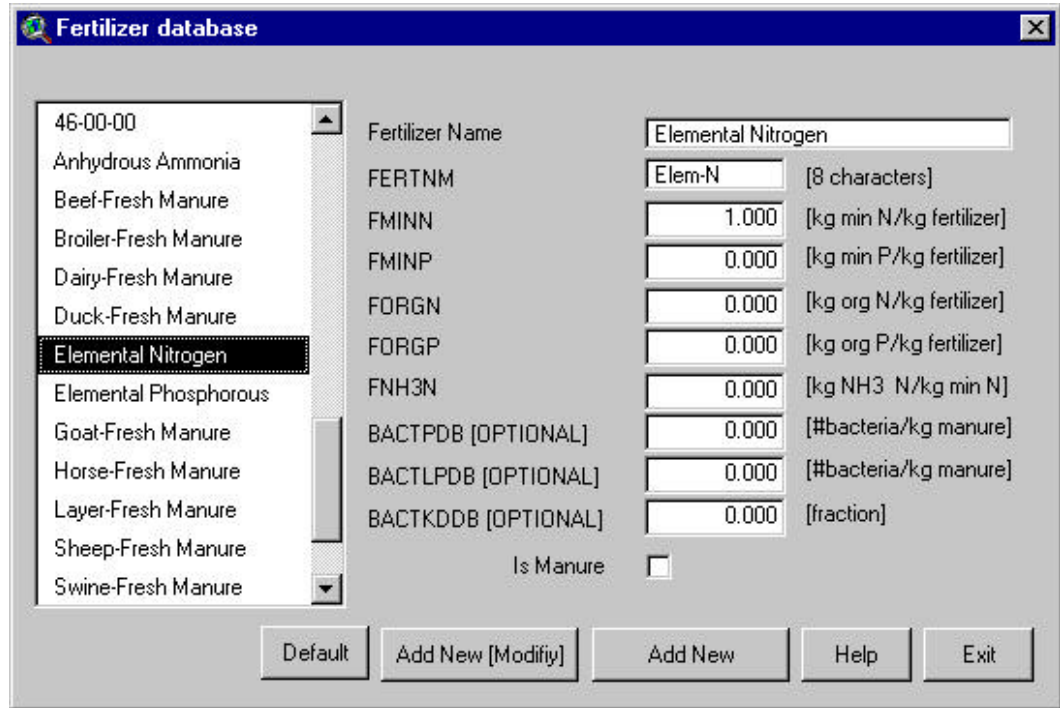

Figure 14.44
- b. The data for the fertilizer will be displayed (Figure 14.44). A complete description of the parameters is provided in the *Soil and Water Assessment Tool User's Manual, Version 2000*, Chapter 17.